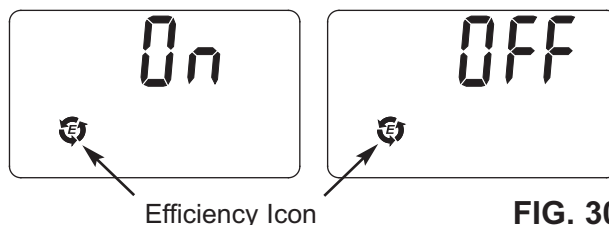

FIG. 30
1. Press and hold the PROGRAM button until the screen in Figure 29 is displayed. Once in this display, press the PROGRAM button once and one of the two displays in Figure 30 is shown.